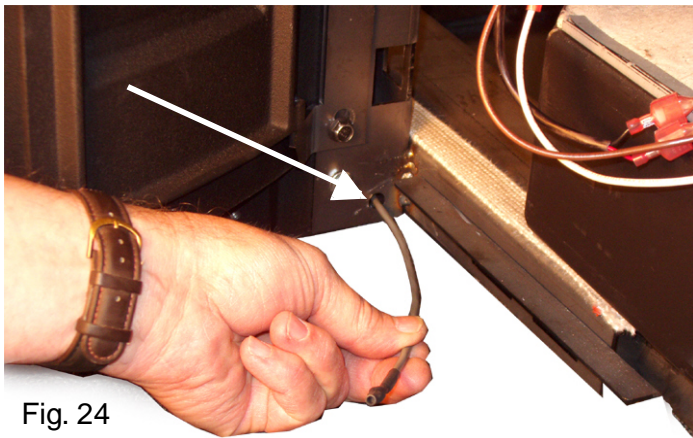

Fig. 24
- Insert the sensor end of the wire from the rear of the mounting frame through the hole as shown in fig. 24 .